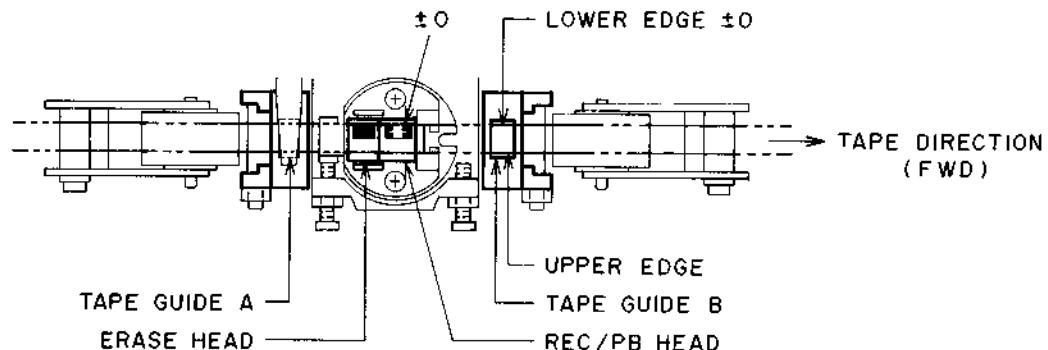

Fig. 8-1
- 1) Use the mirror tape (AJ-751178) and adjust the tape guide height with turning the tape guide height adjustment nuts **(a)** and **(b)** so that when in FWD Play mode, the tape edge and the head edge match as in Fig. 8-1.